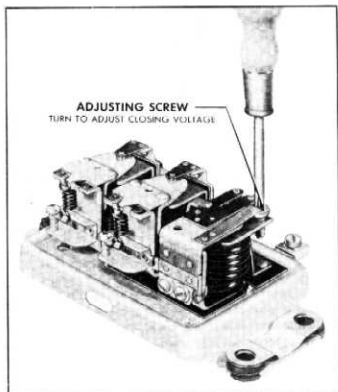

Fig. 16—Closing Voltage Adjusting Screw
- When necessary to make a correction, adjust closing voltage by turning adjusting screw (fig. 16) until the preferred setting of 6.4 volts is obtained. Turn screw clockwise to increase spring tension and closing voltage and counterclockwise to decrease spring tension and closing voltage.